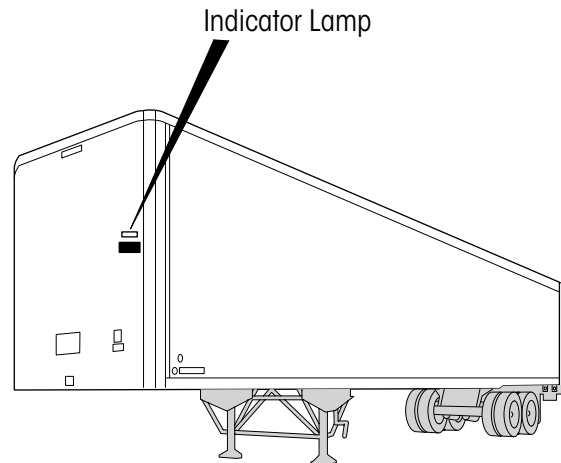

Figure 3: Indicator lamp typical location
- Indicator lamp (Figure 3 on page 9) that illuminates when regulated air flow exceeds the designed threshold. This occurs while tires are inflating or if there is a system leak.
TIREMAAX® PRO and CP function similarly for tire inflation. Deflation is a function of TIREMAAX PRO only. No operation is required by the driver/operator for either system to function normally. However, the Indicator Lamp should be monitored to verify system function and integrity. The Indicator Lamp is located on the front of the trailer (Figure 3 on page 9) or in a location within view of the driver from the cab.